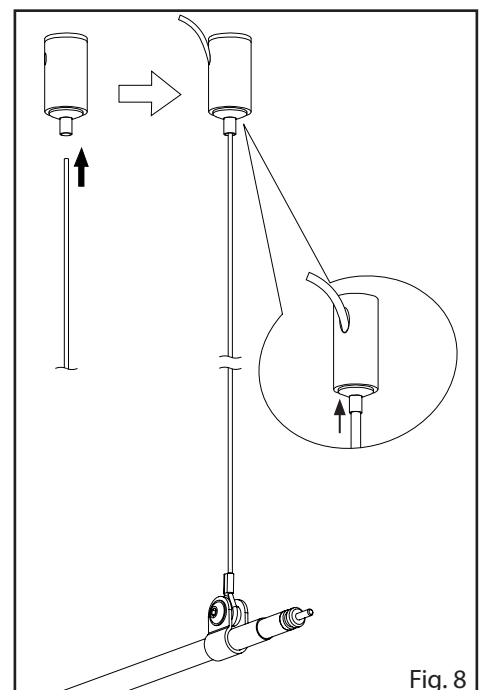

Fig. 8
15. Hoist and hang system to the ceiling by Inserting the Cables (P) into the Posts (N) and adjust to the desired length: to shorten, push the cable up; to lengthen, push in the plunger while pulling down on the cable, release the plunger to lock. Cut off the excess cable where it exits the post (Fig. 8). **CAUTION: Do not cut off remaining excess cable until final adjustments have been made. Excess cable will be needed for adjusting system shape and height. Acquire assistance for this step, avoid executing with one person.**